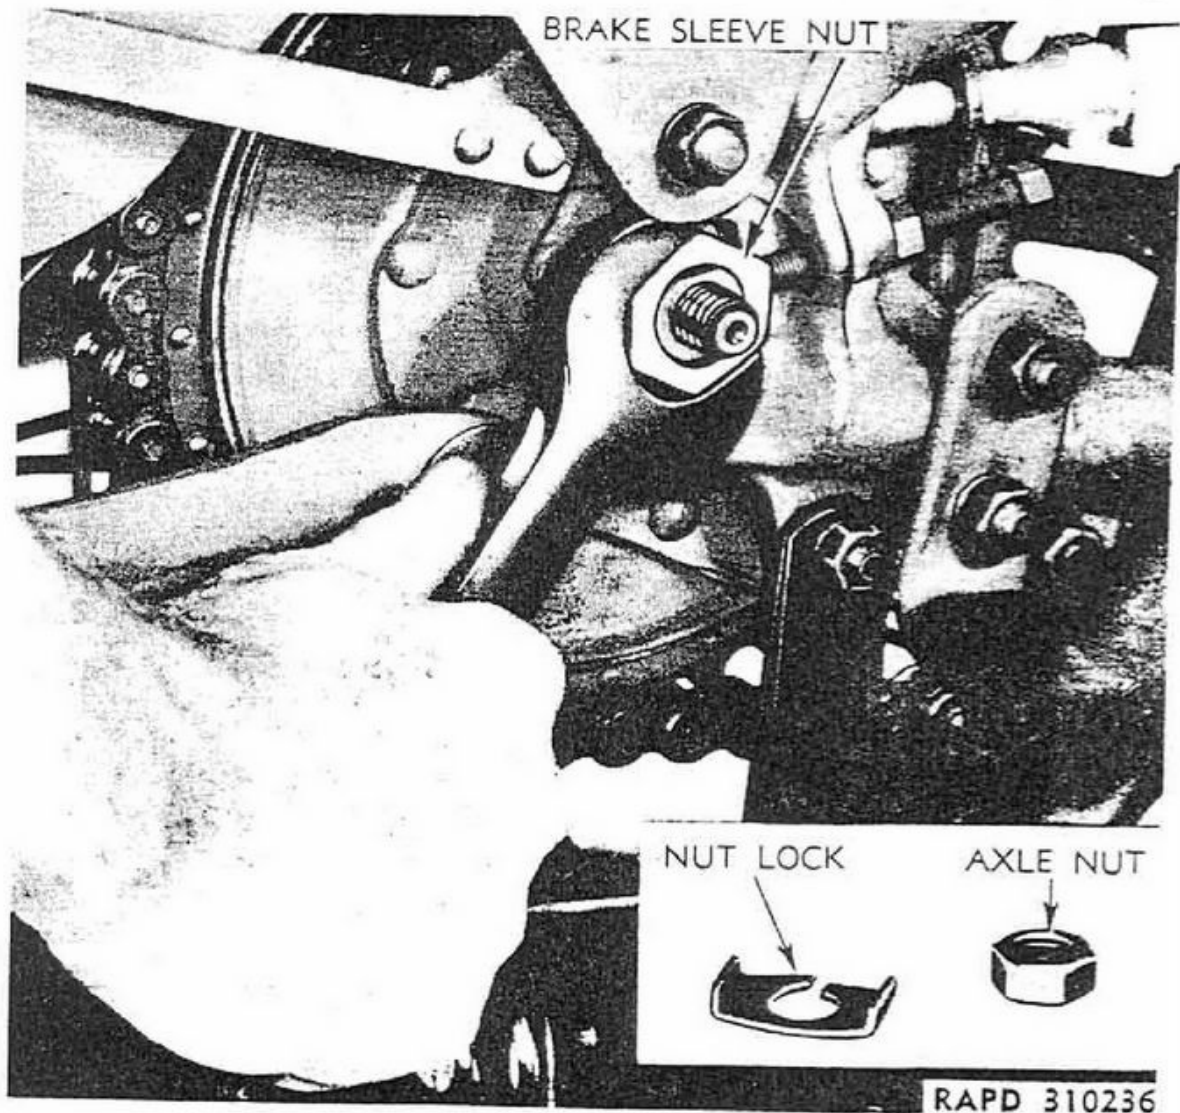
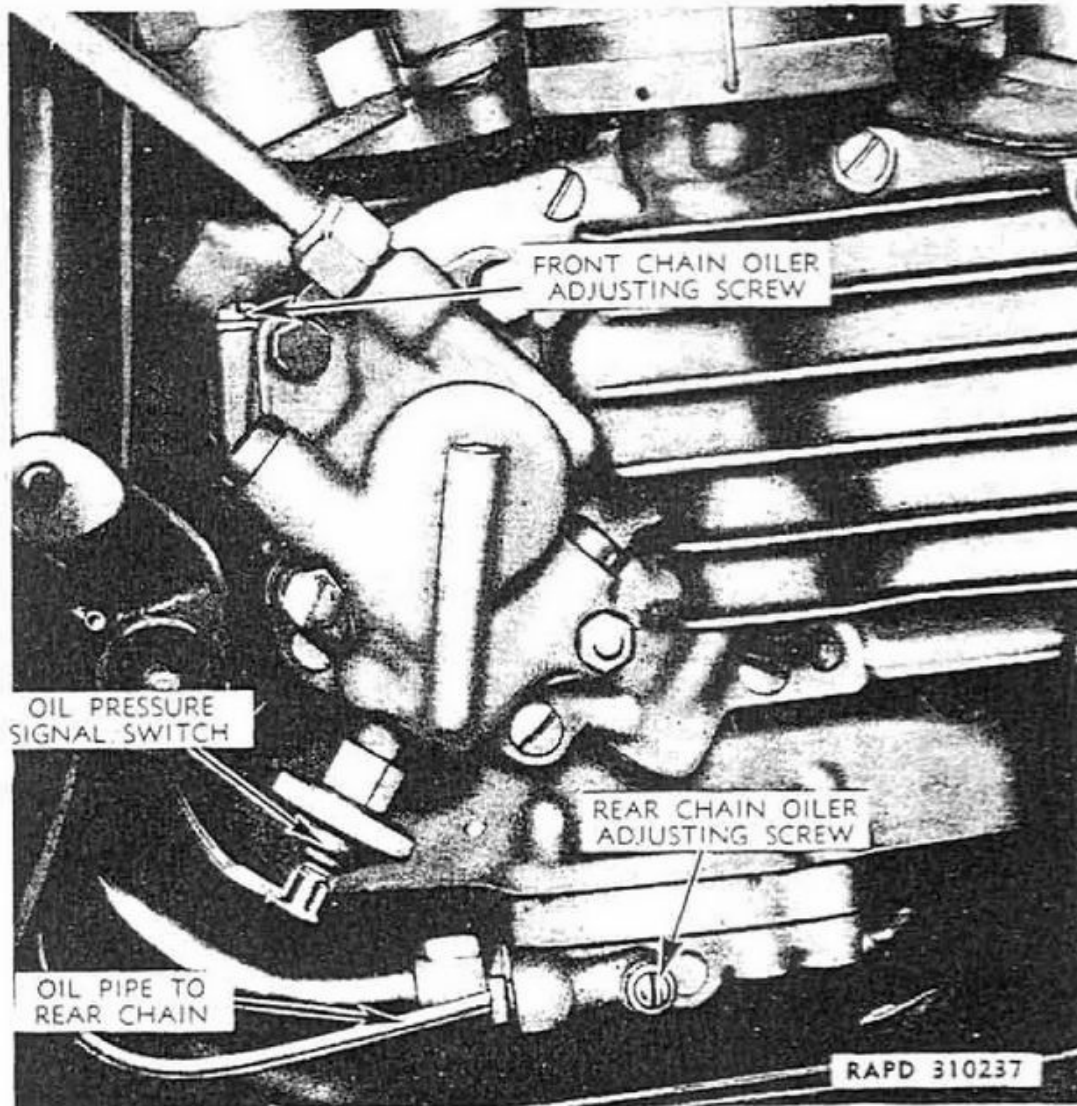

Figure 39—Brake Sleeve Nut
Figure 40—Chain Oilers
60. ADJUST REAR CHAIN AND ALINE REAR WHEEL (fig. 39).
- (1) Remove rear axle nut and lock washer (right side of vehicle).
- (2) Loosen brake sleeve nut enough to allow brake assembly to slide backward or forward in frame mounting (fig. 39).
- (3) Loosen the two (right and left side) rear wheel adjusting screw lock nuts.
- (4) Turn wheel adjusting screws clockwise (to right) to move wheel and sprocket backward. This tightens chain. *NOTE: If chain is too tight, turn wheel adjusting screws counterclockwise (to left) so that wheel can be shifted forward. This will loosen chain.* Always turn the two wheel adjusting screws an equal number of turns in order to keep wheel alined.
- (5) Check correct alinement of wheel by noting that tire (not tire rim) runs approximately midway between lower rear frame tubes at the point where tubes join transmission mounting. It is desirable to have tire run slightly closer (not more than $\frac{1}{16}$ in.) to right than to left side lower tube. A further check of alinement is observing that rear sprocket runs centrally in chain. *CAUTION: If rear wheel is not correctly alined, vehicle steering will be affected, and sprockets will wear excessively on one side.*
- (6) With adjustment of chain and wheel alinement completed, securely tighten wheel adjusting screw lock nuts, and brake sleeve nut; replace axle lock washer and nut, tightening nut.
- (7) Recheck adjustment of chain as tightening brake sleeve nut and axle nut sometimes changes the chain adjustment.
- (8) After tightening rear chain, rear brake may be found too tight. Check and correct brake adjustment (par. 96).
61. CHAIN OILERS (fig. 40).
(1) Add thin (0.002-inch thick) washer under head of front chain oiler adjusting screw (fig. 40). Do not remove any washers already under head of screw.
(2) To check results, refer to step b above.
(1) To adjust oiler, remove thin (0.002-inch thick) washer from under head of front chain oiler adjusting screw (fig. 40).
(1) Adjust oiler by adding thin (0.002-inch thick) washer under head of rear chain oiler adjusting screw (fig. 40). Do not remove any washers already under head of screw.
(1) To adjust oiler, remove thin (0.002-inch thick) washer from under head of rear chain oiler adjusting screw (fig. 40).
g. At 1000-mile intervals, loosen both front and rear chain oiler adjusting screws (fig. 40) two turns each. Do not remove screws. Start and idle engine 1 minute, then tighten screws firmly, but do not force. This operation serves to flush oiler control valves and rear chain oiler pipe.